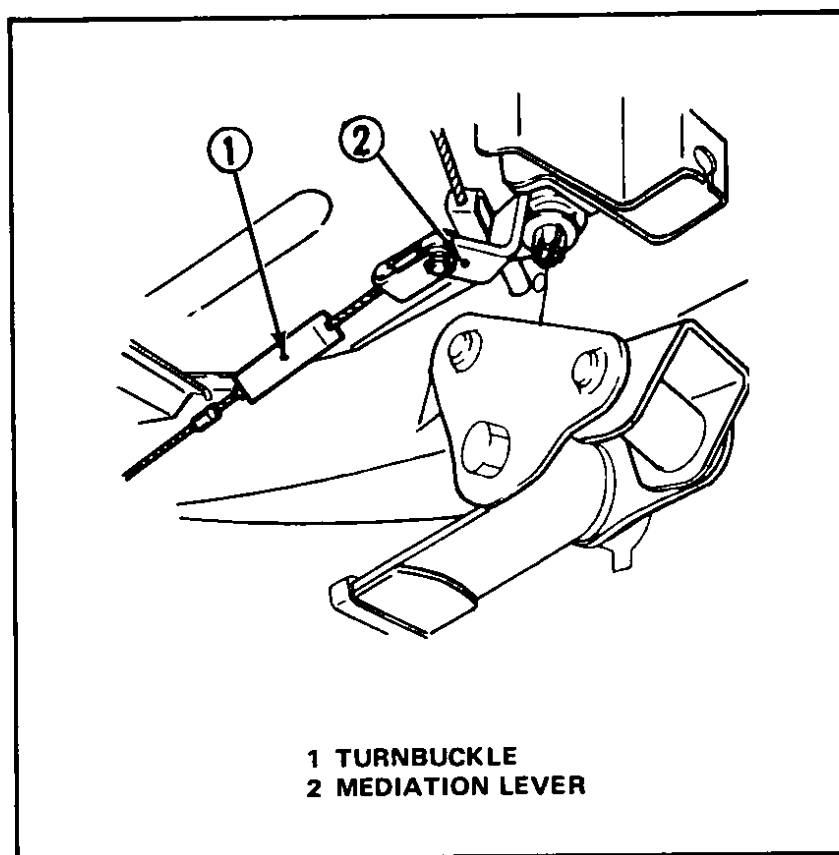

Fig 118 Adjusting parking brake – Model 610 station wagon
- 3 *On station wagons*, after the cable tension adjustment has been made, be sure that the mediation lever, Fig 118, is properly returned to the original position when parking brake lever is released completely